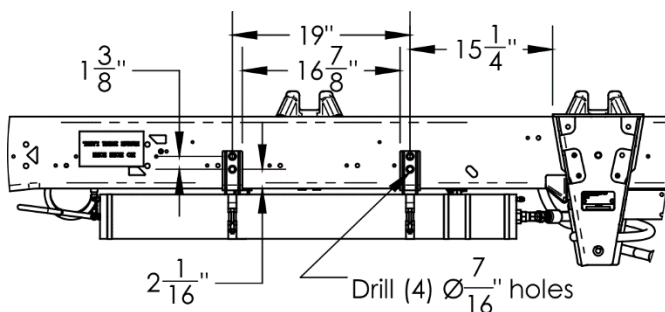

Figure 24. Volume suggested mount locations
1. Locate (2) Volume Mounts.
2. Place the mounts against the driver side frame, forward of the front hanger. Figure 24 shows suggested locations. The mounts can be relocated based on frame mounts, etc.